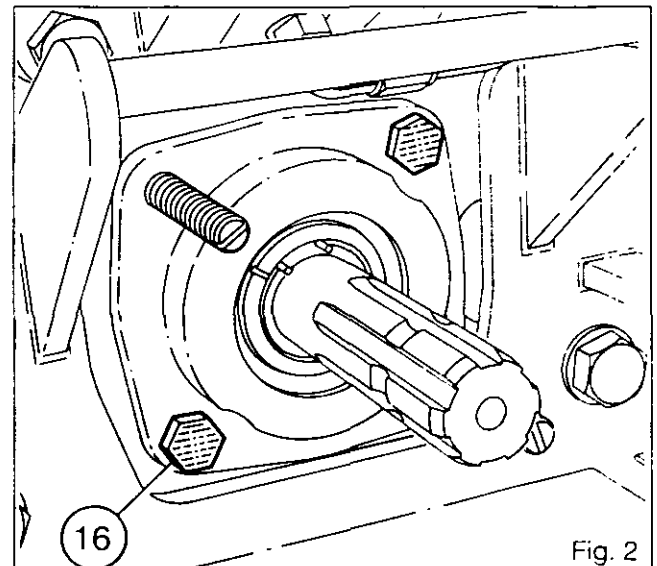
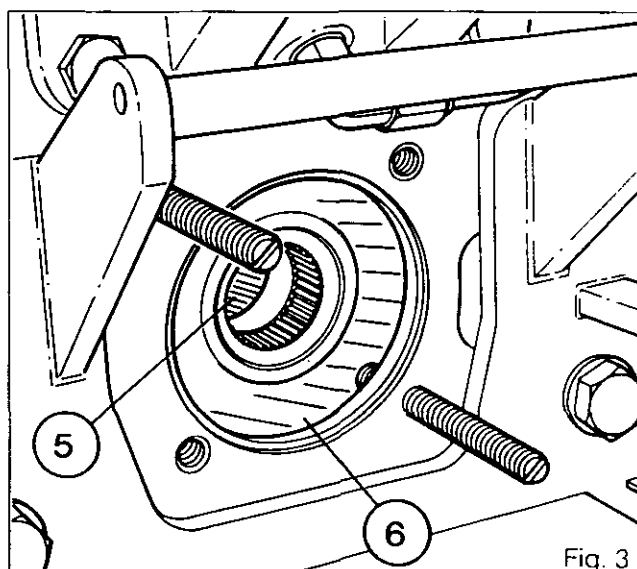

Fig. 2
Fig. 3
8. Partially drain the rear axle housing. Remove two diametrically opposed bolts (16) (Fig. 2).
9. Screw two guide studs (Fig. 2) against the gear (6). The purpose of this is to hold the gears (5) and (6) in line when removing the shaft (10) and the rear cover assembly (Fig. 3).
10. Remove the other two bolts (16) (Fig. 2).